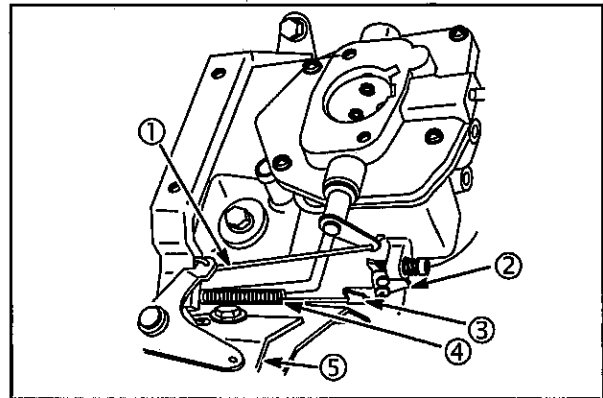

Fig. 11
1. Remove two screws and choke control bracket (5), **Fig. 11**.
2. Disconnect choke link (1) from carburetor.
4. Disconnect governor link and spring (4) from retainer (3) and throttle lever (2).